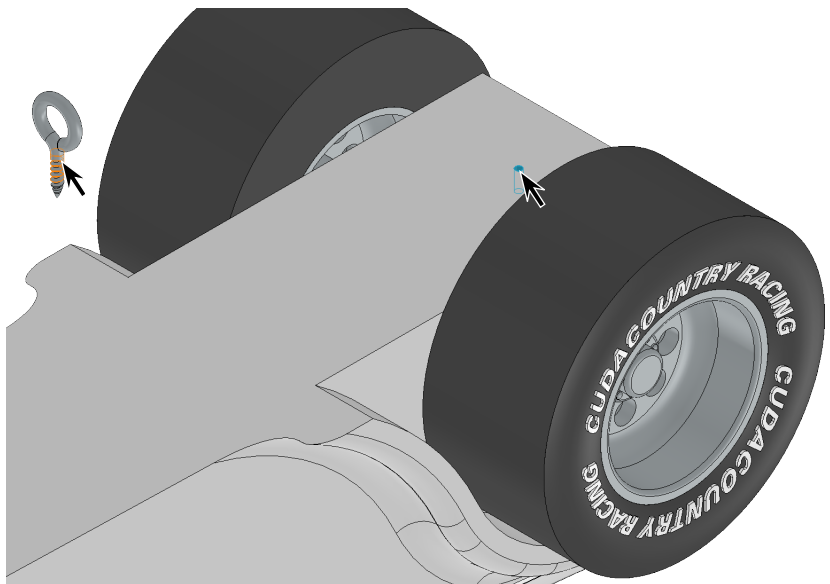

Fig. 31
Step 7. Use **Ctrl-Left Arrow** key  and **Ctrl-Down Arrow** key  to pan to rear Eye Screw, Fig. 31.
Step 8. Click **cylindrical inside face of the hole in Body** and **cylindrical face of Eye Screw<2>**, Fig. 31.